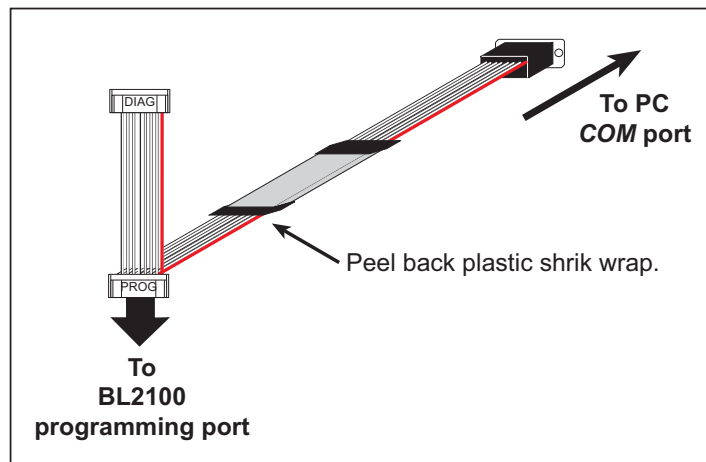

Figure C-8. Peel Back Plastic Shrink Wrap
1. Peel back plastic shrink wrap as shown in Figure C-8.